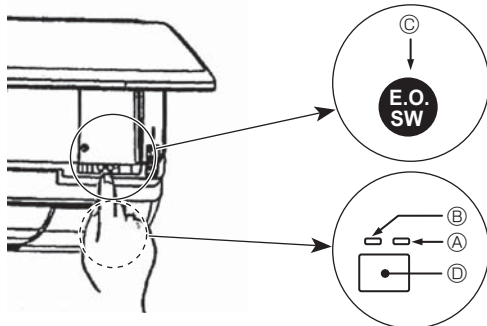

Fig. 5-2
- To stop operation, press the ⚙ button (D) or the ⚙ button (C) for more than 2 seconds.
[Fig. 5-2] (A) DEFROST/STAND BY lamp (Orange)